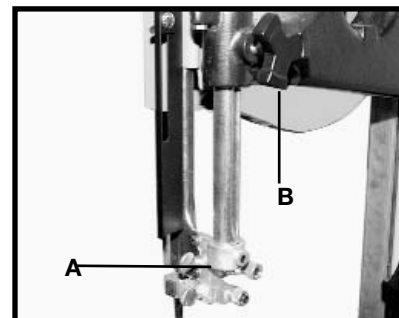

Fig. 26
Set the upper blade guide assembly (A) Fig. 26 as close as possible to the top surface of the workpiece. Loosen the lock knob (B) and move the guide assembly (A) to the desired position.